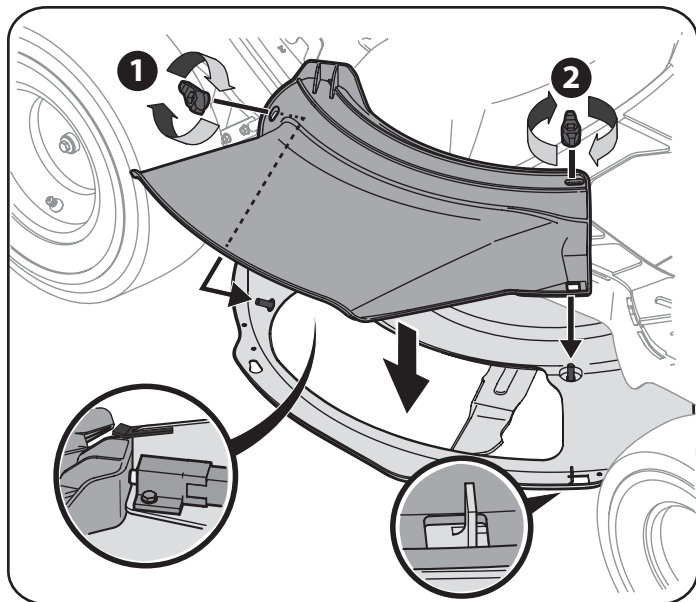

Figure 11
2. Install the deck chute into the deck discharge opening on the deck. The rear of the chute should be under the tab on the rear deck bracket. See inset in Figure 11. The studs on the deck surface will fit through the holes on the upper portion of the deck chute. The small tab on the deck lip area will fit through the square cutout on the lower portion of the deck chute. See inset of Figure 11.
3. Secure the deck chute by tightening the wing knobs removed earlier. See Figure 11.